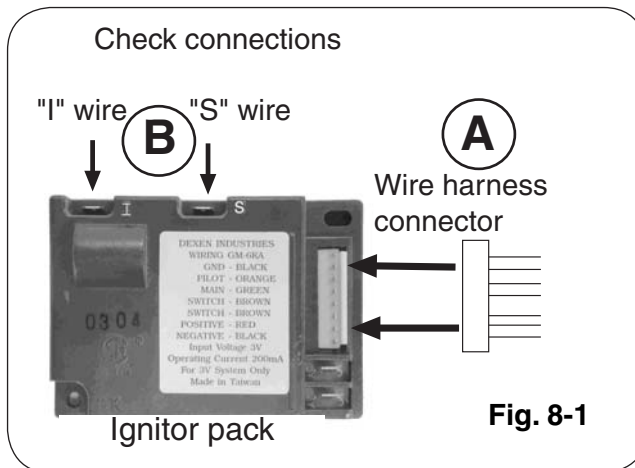

Fig. 8-1
1. Check that the wiring harness is fitted tightly into the connector on the green ignitor pack in the rear of the switch box (Fig. 8-1).
2. Check that the female connectors on the two black wires from the pilot assembly (wires marked "I" and "S") are inserted fully into the male connectors on the ignitor pack (Fig. 8-1).